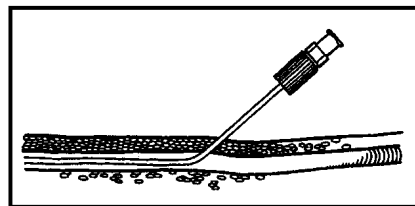

Figure 3-25
- (l) Slowly advance the catheter into the vein until the hub contacts the skin, then remove the guide wire completely, and place a catheter cap on the catheter hub. (See Figure 3-25.)